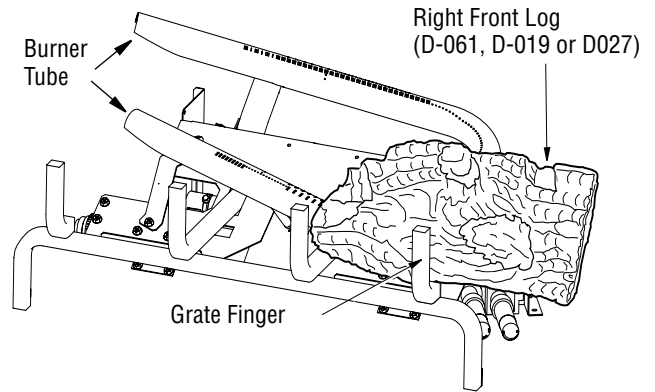

Figure 18 - Installing Right Front Log
1. Find the right front log (LMF24GTA/B or LMF24MOA/B models: D-061, LMF30GTA/B or LMF30MOA/B models: D-019, LMF36GTA/B or LMF36MOA/B models: D-027). See **Figures 18, 18A, 18B, and 18C** for reference. The log has a rectangular shape on the bottom that fits against the lip on the black metal base, the square grate, and the round tube burner. Slide the log in place as shown in Figures.